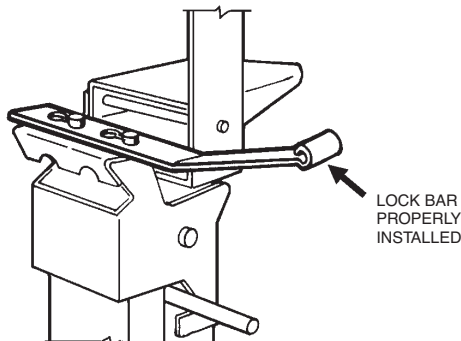

FIGURE 8
2. Insert the lock bar (Part No. 14985) on the cocked regulated release mechanism. See Figure 8.